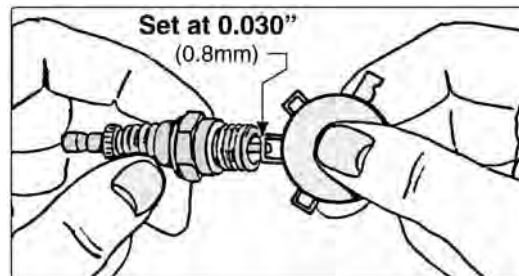

Figure 5-6: Re-Gap Spark Plug
2. Re-gap the plug to 0.030" (0.76 mm) (See Figure 5-6: "Re-Gap Spark Plug.")